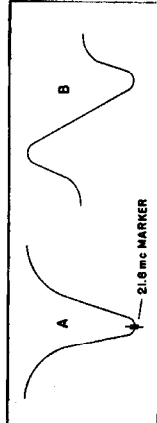

Fig. 12. Audio I-F Curves
**(I) SOUND I-F ALIGNMENT**—The sweep generator is connected through a 500 mmf capacitor to the grid of the tube preceding the sound i-f coil to be aligned. Connect the oscillator through a 100,000-ohm resistor across the resistor, R104, in the limiter tube V18 grid. Insert a 21.8 mc marker signal from an unmodulated signal generator into the grid of V3. Keep the marker signal attenuated so that it just shows a marker on the sweep curve. Advance the signal generator frequency until the sweep curve shows one stage at and T19, respectively, as you advance progressively one stage at a time. The signal generator frequency should be adjusted to that shown in Figure 12-A. With input at the first audio i-f, V22, the bandwidth should be approximately 300 kc at the 70% response point.
| 1        | 21.8 MC marker             | Grid (Pin 1) of V17 through 500 mmf | Junction R104 and C100 through 100K-ohm resistor. | Channel No. 4  | L21 for max. amplitude and symmetry about marker.                         | See Fig. 12(A) for result curve.                     |
| 4        | Not used                   | Grid (Pin 1) of V22 through 500 mmf |                                                   |                | T19 primary slug for max. peak-to-peak amplitude of peaks about 50% line. | See Fig. 12(B) for result curve.                     |